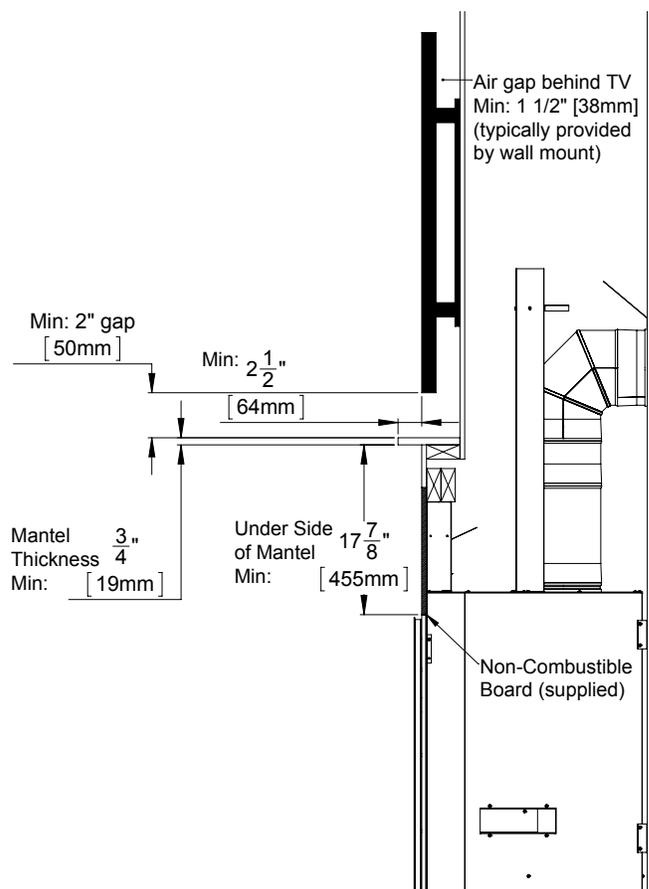

Figure 65. Recess Minimum TV Install
**Recess/Mantel Installation:** Always maintain minimum clearances (see Figure 65). The total depth of the TV and wall mount as well as the recess depth will determine the minimum whether or not a mantel is recommended. A mantel may not be needed if the TV and Mount are low profile enough.